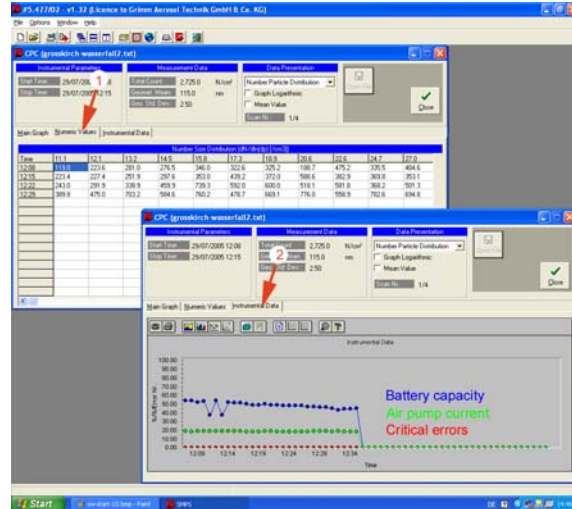

Fig.10: choose scan representation mode
- **Numeric values:** list of numeric entries based on the selected data format (step 1 in figure 10);
- **Instrumental data:** on-line monitoring of battery reserves, air-pump current and critical errors (step 2 in figure 10);